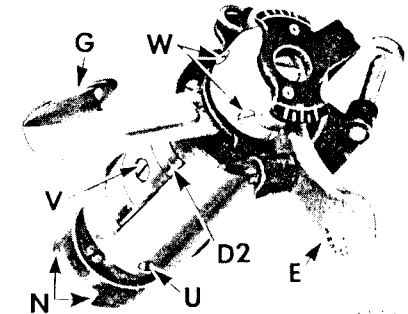

Fig. 70. Adjustment for Straight Stitching,
To check whether the zero bight (straight stitching) position coincides with the extreme left-hand position of the needle at maximum bight, move bight control lever **E** to its highest (maximum bight) position and position lever **G** to its highest (left-hand) setting. Place a piece of note-paper over the throat plate and, by means of the needle-perforation test described on page 22, establish the two extreme positions of the needle at this setting. Then move the bight control lever **E** to its lowest (zero bight) position, as shown in **Fig. 70**, and make the single perforation of the needle, representing straight stitching at left-hand setting.
If the single perforation made at zero bight, is to the **right** of the left-hand perforation made at maximum bight as shown in **Figs. 71 and 72**, remove bight control mechanism and screw the lower set screw **U**, **Fig. 70** outward. Replace mechanism and recheck.
If the single perforation is to the **left** of the left-hand perforation made at maximum bight, as shown in **Figs. 73 and 74** remove bight control mechanism and screw the lower set screw **U**, **Fig. 70** inward. Replace the bight control mechanism in the machine, adjust for zero bight, as instructed on page 21 and recheck left-hand setting.
**CAUTION:** After each adjustment involving regulating slideway **N**, **Fig. 70**, eccentric sleeve **D2** and hub screws **W**, **Fig. 70** or stop screws **U** and **V**, **Fig. 70**, all positions of the needle determined by the operation of the bight control mechanism must be rechecked, as it is quite possible, while correcting one, to over-correct another previously made adjustment.